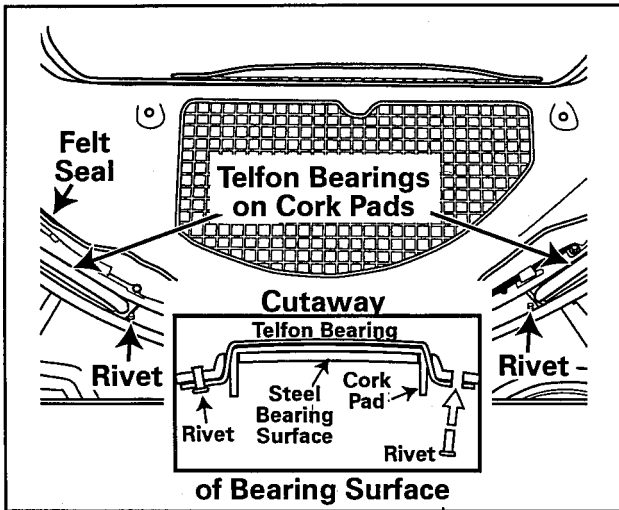

Figure 6-6
3. Drill out the old rivets and rivet new bearings in place. In positioning the bearing and cork pad, the face of the bearing should ride against the tumbler. This allows the bearing to stick out beyond the metal of the tumbler front. (See Figure 6-6)